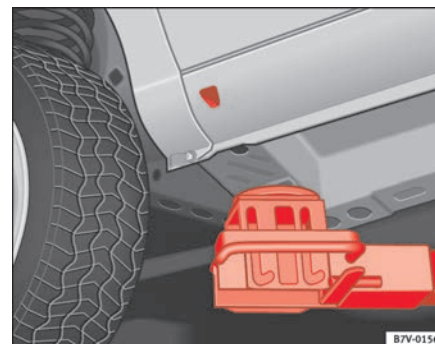
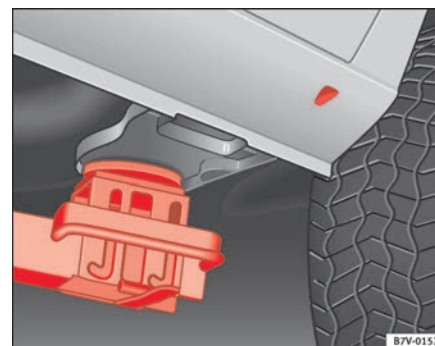

Fig. 175 Lifting with the lifting platform: lifting point at front left
Fig. 176 Lifting with the lifting platform: lifting point at rear left
Your vehicle may only be lifted by a lifting platform at the points shown in the illustrations ⇒ page 255, fig. 175 and ⇒ page 255, fig. 176 ⇒ .
- The vehicle must only be lifted at the points indicated in the diagrams ⇒ page 255, fig. 175 and ⇒ page 255, fig. 176. If the vehicle is not lifted at the indicated points, it may fall from the platform while the engine or gearbox is being dismantled, for example.